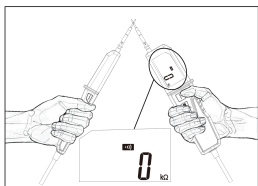
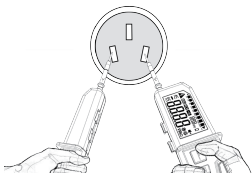

Fig.3
Fig.4
2. Before the test, you can manually check the tester's quality, as shown in Figure 3: Touch the metal nib of the tester L1 and L2 together, and the on-off resistance will be displayed at this time. The resistance value range should be $<5\text{ k}\Omega$; select a known voltage object, and then connect the two probes to it, such as a 220V socket, to ensure the accuracy of the tester (see Figure 4). This tester cannot test AC or DC voltages below 5V. When testing a voltage of $<5\text{ V a.c./d.c.}$, the LCD
Diagram of three-phase power system testing (Fig.4)